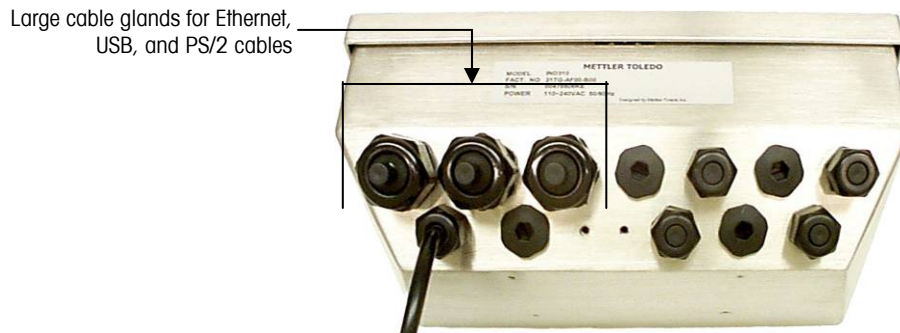

Figure A-3: IND310drive Cable Glands
- Pass the cables through an appropriately sized cable grip before connecting the wires. For example, the Ethernet, USB, and PS/2 cables go through the large cable glands (see Figure A-3).